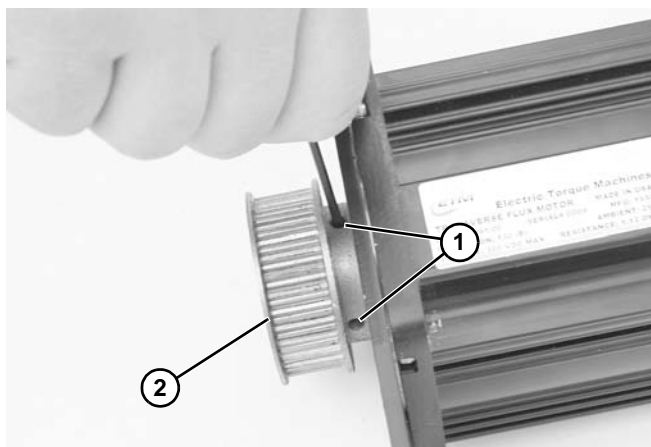

Figure 28
2. Loosen set screws (**Figure 28, item 1**) and remove drive pulley (**Figure 28, item 2**).